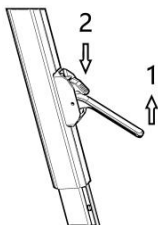

Figure D6
a. Press the lock head, release the lift lock at the bottom of the support rod, lift the rod to proper height, then lock it (Figure D6). The red warning mark on the inner rod of the supporting rod indicates the maximum support height; sliding further may cause the inner rod to detach.